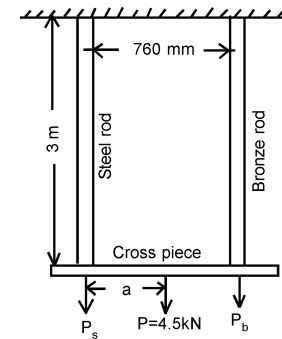

Fig. 5
- (b) Two vertical rods as shown in Fig. 5, one of steel and the other of bronze, are rigidly fastened at upper ends at a horizontal distance of 760mm apart. Each rod is 3m long and 25mm in diameter. A horizontal cross-piece connects the lower ends of the bars. Where should a load of 4.5 kN be placed on the cross piece so that it remains horizontal after being loaded.